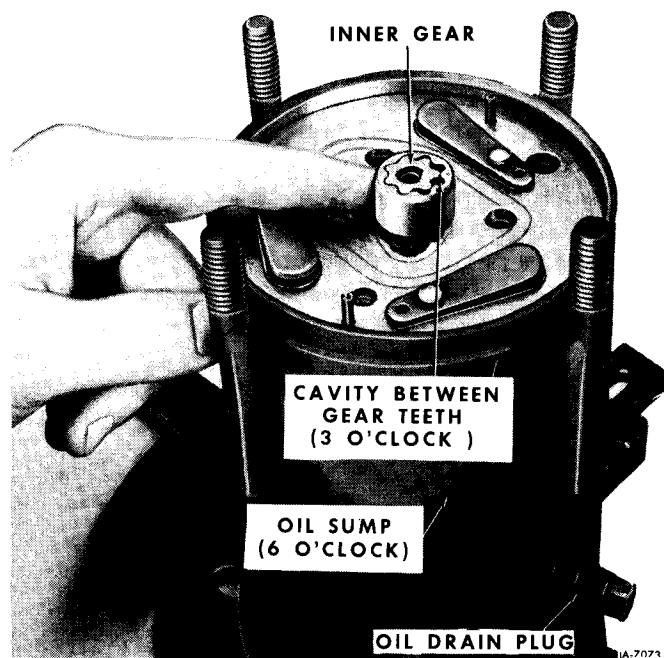

Figure 134—Positioning Oil Pump Gears
19. Position outer oil pump gear over inner gear with previously applied identification mark up and, when standing facing oil sump, position outer gear so that it meshes with inner gear at the 9 o'clock position, and resulting cavity between gear teeth is then a 3 o'clock position (figure 134).